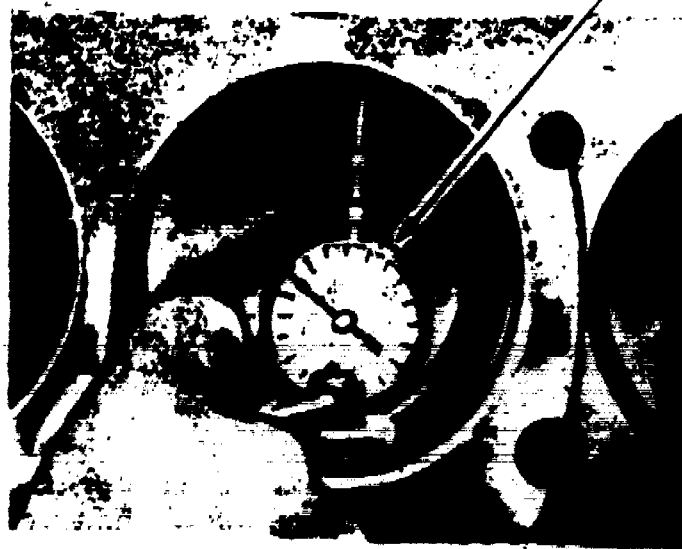

Figure 13. Cylinder Bore Gauge.
The cylinder block and head should be carefully inspected for a buildup of rust and scale into coolant passages, or blocked oil passageways. The next step is to measure the cylinder itself to determine the following: (1) correct size (diameter), (2) cylinder tapered from the top to the bottom, and (3) cylinder out of round. These measurements are taken with a cylinder gauge and outside micrometers, or with a telescoping gauge and outside micrometers, and are illustrated in figures 13, 14 and 15. If the cylinders are slightly out of shape they can be corrected by using